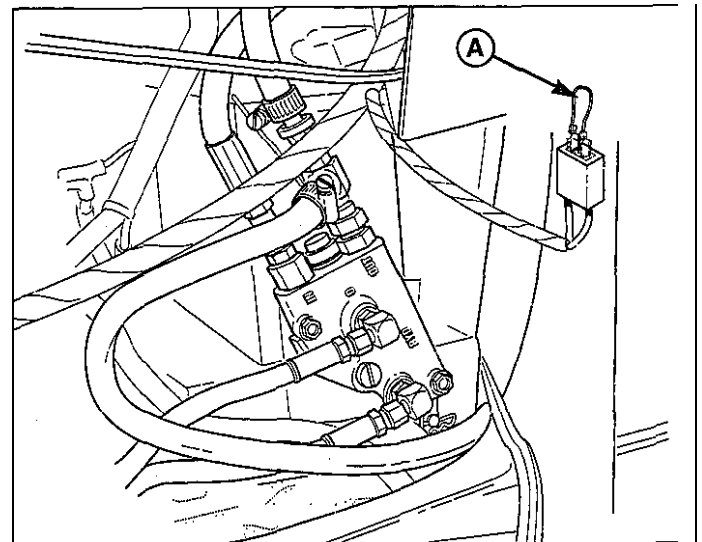

Figure 7. Connect PTO Switch
1. Locate the rear PTO switch plug on the main wiring harness behind the dashboard. Remove the jumper (A, Figure 7) from the harness plug and connect the harness to the rear PTO switch.